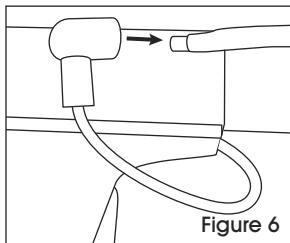

Figure 6
6. Attach the two ends of the cable. (See Figure 6)